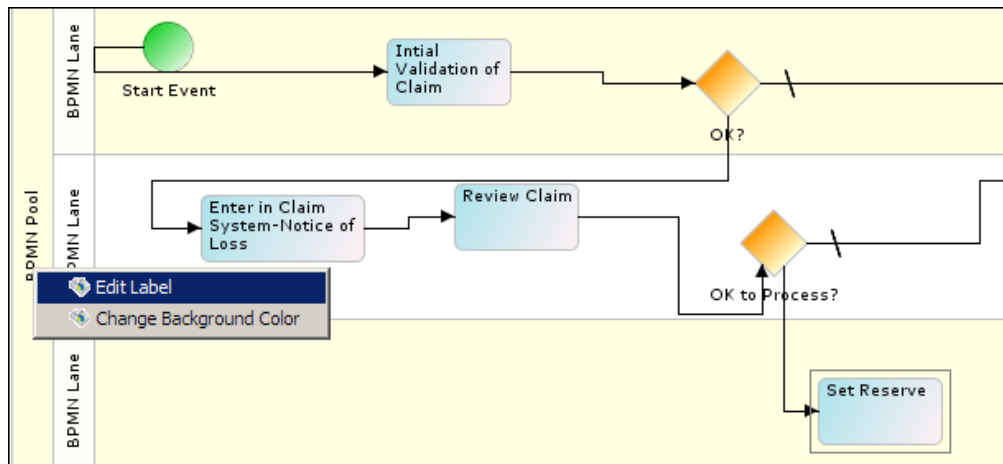

Figure 26: Selecting Edit Label Option for Pool
1. Right-click the Pool and select **Edit Label** option (see Figure 26).